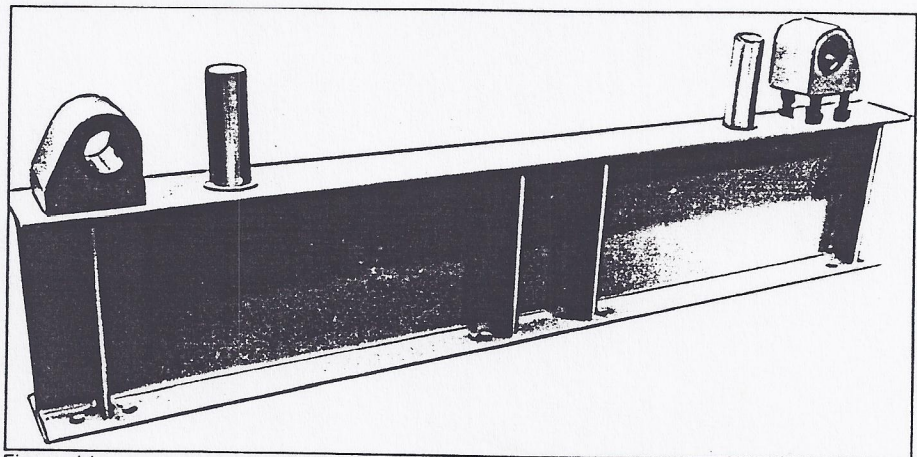

Figure 14
- i. Clean contact surfaces of equalizer and pitman upper bearings as well as connecting bolts from cosmoline, dirt, paint or burrs and lightly grease them. Attach upper pitman bearings, align and tighten. See illustration in Figure 14.